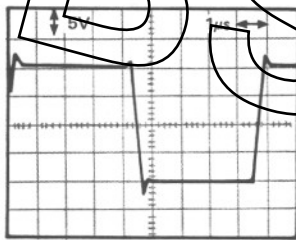

Figure 1. Transient Response of the AD528
**Phase Margin.** The AD528 is internally compensated for unconditional stability at all gains. Perhaps one of the most meaningful ways to express the stability of a closed loop amplifier is in terms of its phase margin. Phase margin is measured at the frequency where the open loop gain of the amplifier becomes unity or 0dB. It is the additional amount of phase shift that, if introduced in the loop, would make the loop unstable. The AD528 has been designed for a 60° phase margin at the unity gain crossover frequency for absolute stability and absence of ringing and overshoot. Note the transient response of the AD528 in Figure 1. Note also in Figure 2 that the phase shift at 10MHz, the unity gain crossover frequency, is 120° representing 60° of phase margin.